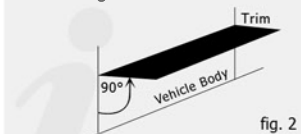

fig. 2
- **HOLD THE PIECE AT A 90° ANGLE TO THE VEHICLE**, and touch the every top edge to the vehicle, observing your placement and alignment guides. If you need to adjust placement, simply raise the piece 90° and lift off (see fig. 2).